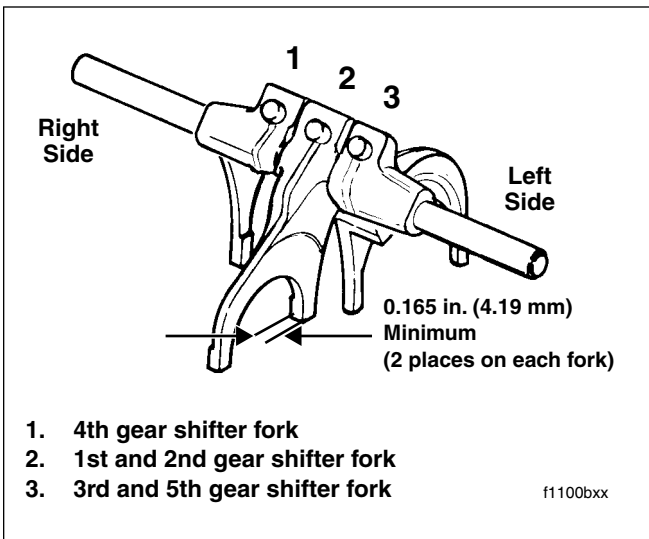

Figure 7-7. Shifter Fork Identification
6. Inspect the shifter forks for wear. With a micrometer or dial caliper, measure the width of the forks where they contact the gear fork grooves. Replace any fork that measures less than 0.165 inch (4.19 mm). See Figure 7-7.